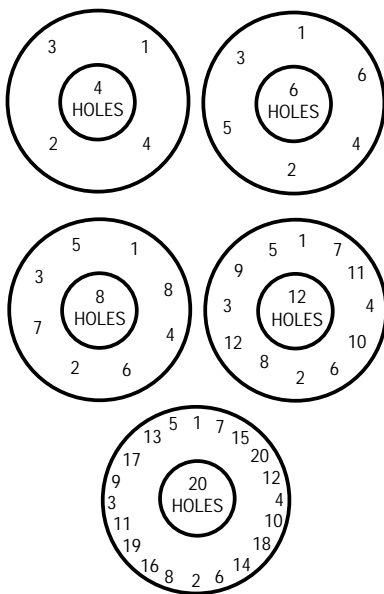

FIGURE 22
15. Torque to the values found in Table 9 using the torque patterns in Figure 22 and Table 10.